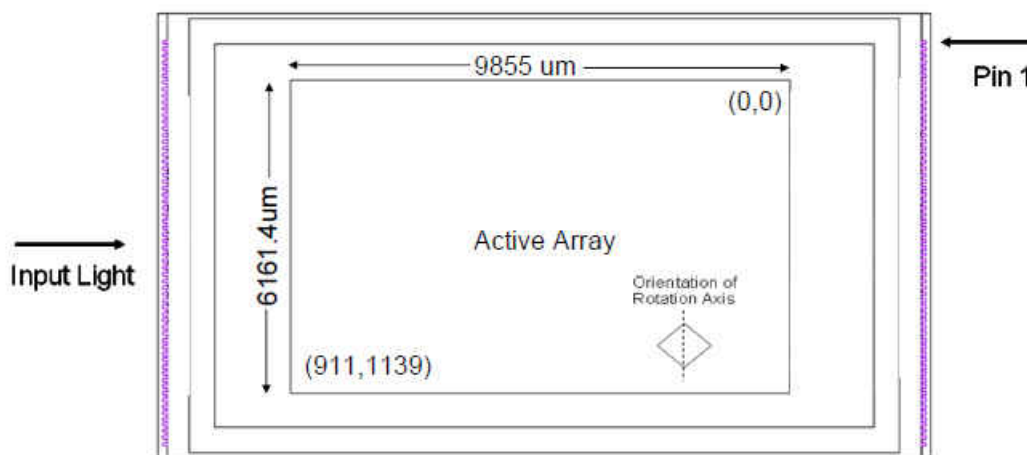

**FIG 7-4. System Interface Loads for FQD**
- (1) See セクション 13 for diagrams.
(2) See 図 7-4 for diagrams.
(3) See Mounting Concepts DLP4500FQE.
(4) See Mounting Concepts DLP4500FQD.